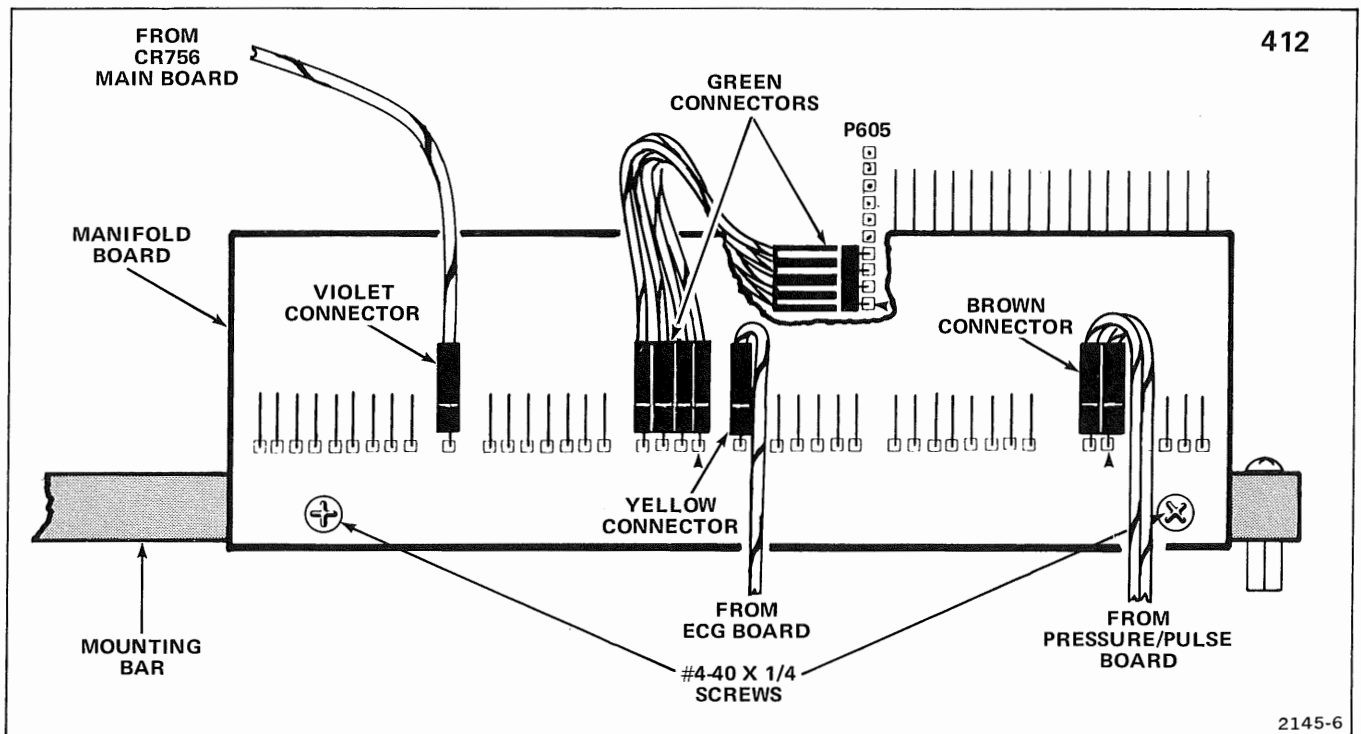

Figure 1-17. Installing Manifold Board and connecting cables in 412.
5. Connect four-wire cable with green connector to P605, install Manifold Board and connect remaining cables. See Figure 1-17.